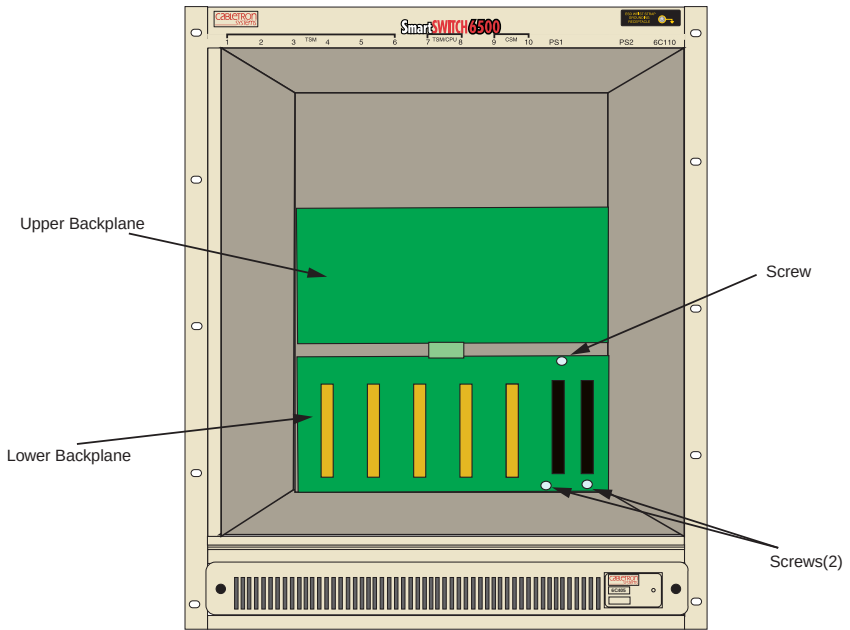

Figure 3-7 Removing the Screws
3. Remove the three screws from the lower backplane, as shown in Figure 3-7.